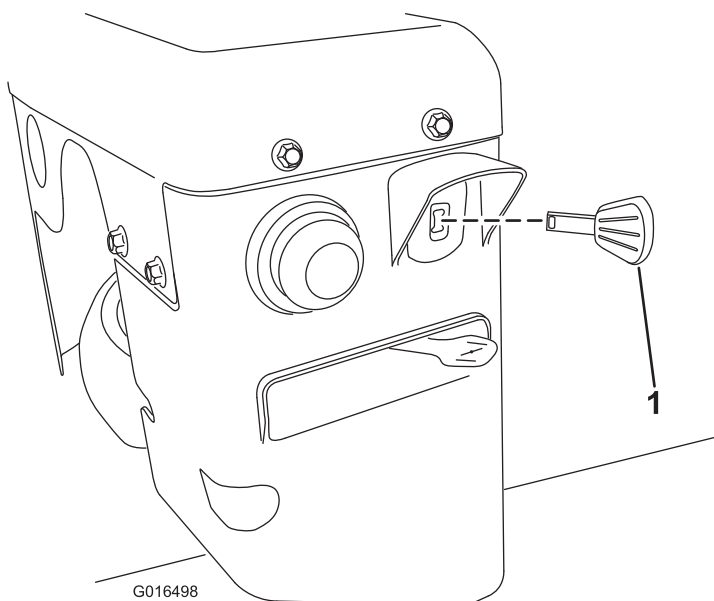

Figure 20
3. Insert the ignition key all the way in (Figure 20).